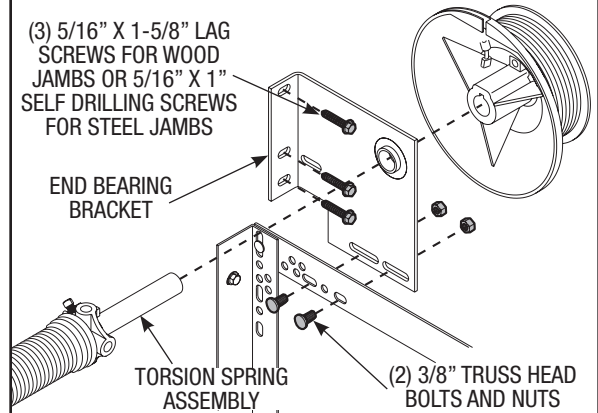

Figure 4
Lift spring assembly into place and bolt end bearing brackets as shown using (2) 3/8" truss head bolts and nuts. Attach end bearing brackets to the door jamb using (3) 5/16" x 1-5/8" lag screws for wood jambs and (3) 5/16" x 1" self drilling screws for steel jambs (See Figure 4).